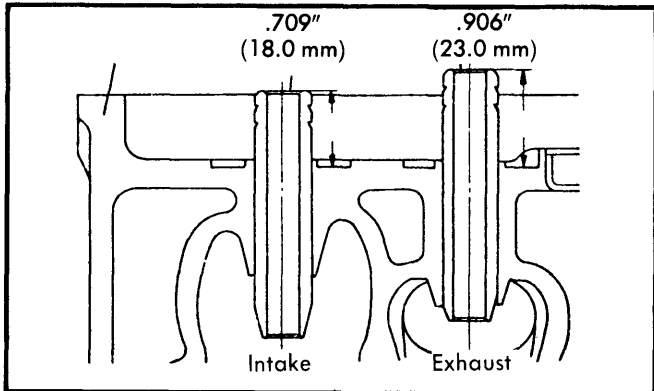

Fig. 3 Correct Valve Guide Projection
1) Check valve guide for wear or damage. Replace defective guides by using a drift and driving out guide through top of head. Press in new guide from top of head until correct projection of guide above head is achieved. See Fig. 3.